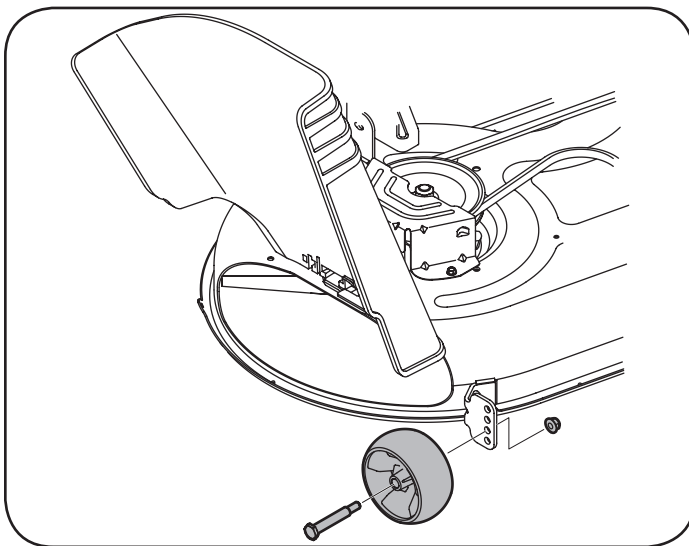

Figure 8
- Position the wheel to the desired height as listed above. See Figure 8.